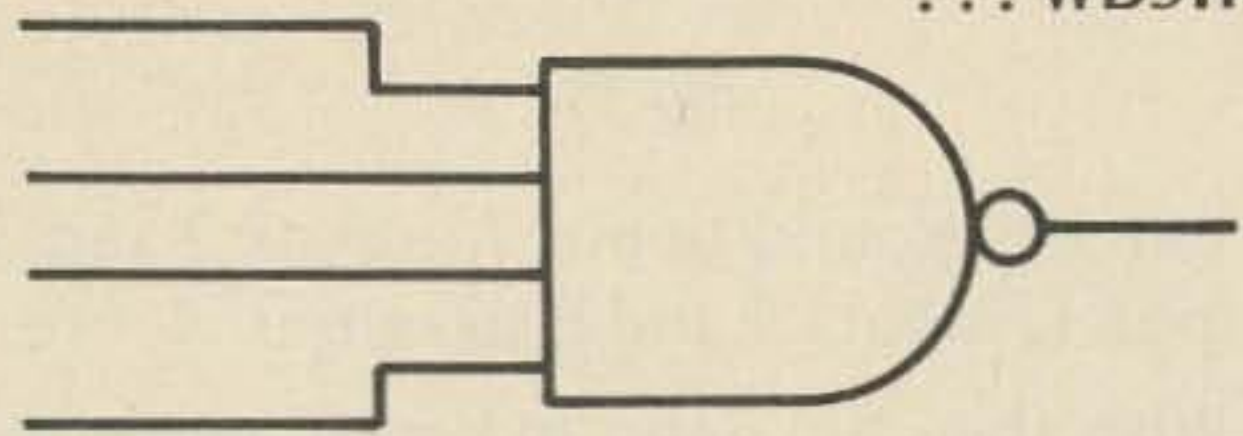

Fig. 23.
1) The 4-input "NAND". There is not much difference between a 4-input gate and the 2-input gate that we looked at before. With the 4-input "NAND" gate, all 4 inputs must be at 5 volts (logic 1) to get 0 volts at the output. If any input is ground (logic 0), the output will stay at 5 volts. See Fig. 23 for the logic symbol of the 4 input "NAND".